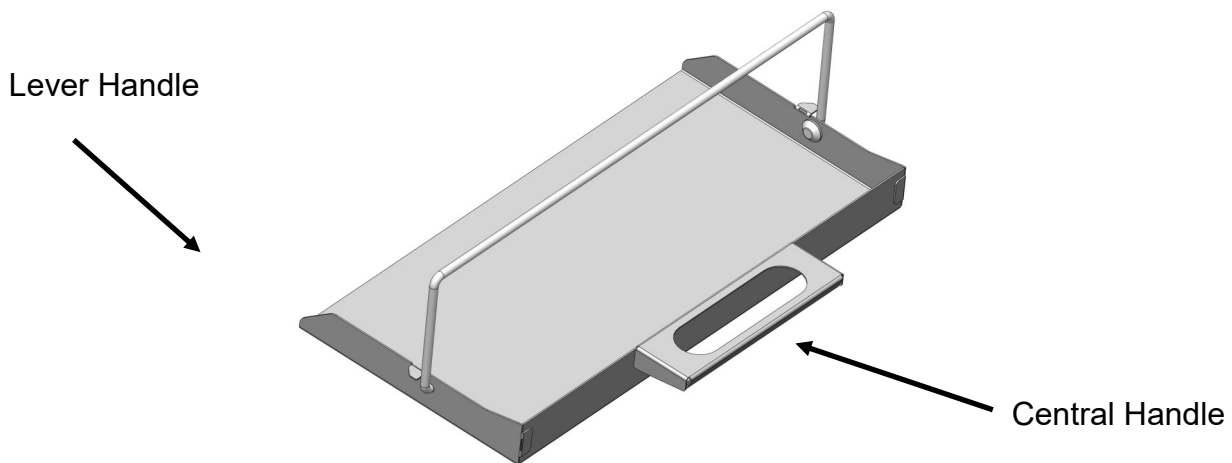

Fig. 7. Ash Pan
- Locate the central handle on the ash pan with one hand (see Fig.7).